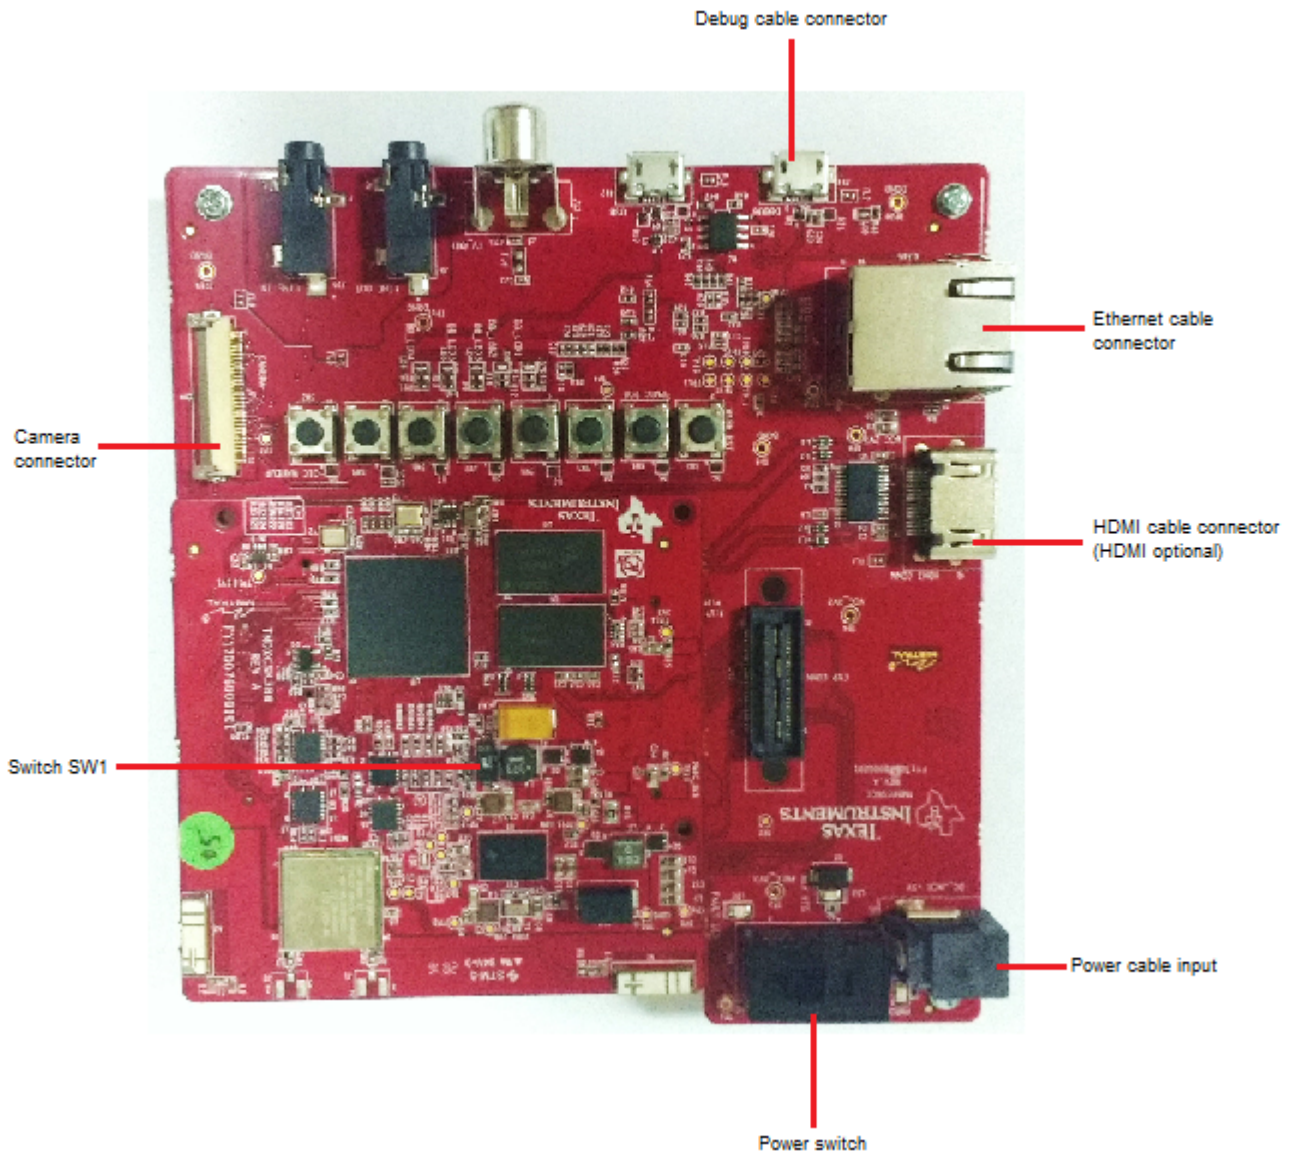

Figure 4. DM388 CSK Connections (2 of 2)
2. Set switch 1 (SW1) to ON (see Figure 4).